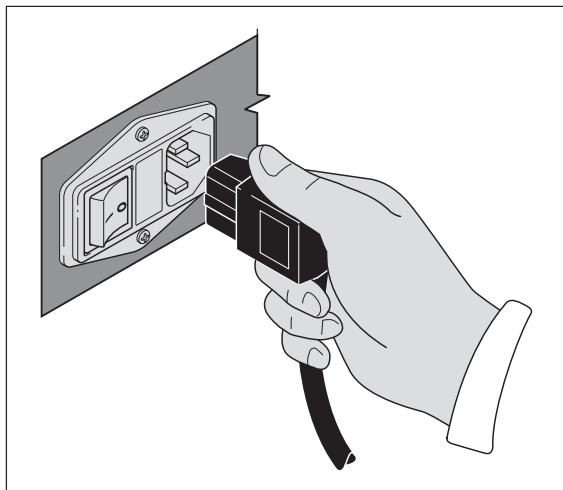

Figure 6-3
1. Visually make sure that the main switch is in the OFF position (O).
3. Insert the power supply cable socket into the main machine plug (Figure 6-3), and the other end to the mains socket outlet.